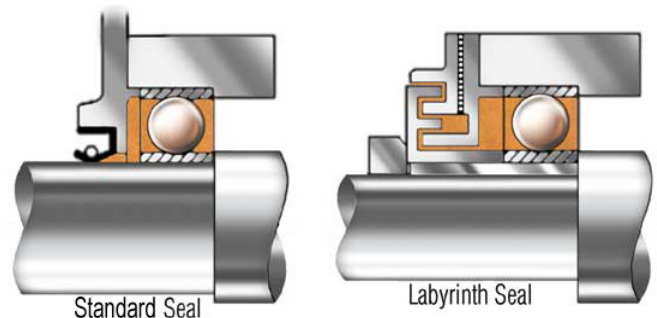

Fig 3
**Mechanical issues.** Select severe duty models with improved sealing. Labyrinth and combination seals are used instead of simple rubber washers or seals. (Fig 3)